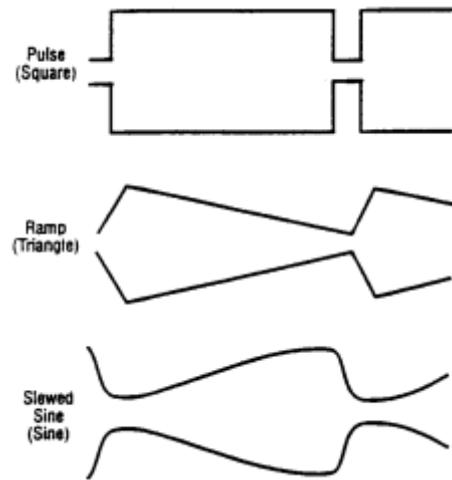

Figure 4. Effects of Symmetry Variation.
The **DUTY CYCLE** control can be used to alter the symmetry of the output waveform, to produce waveshapes such as those shown in Fig. 4. For a square wave, symmetry variation amounts to changing the duty cycle (ratio of "high" to "low" time), effectively converting the instrument into a pulse generator. For a triangle wave, the result is a ramp, and with a sine wave, a distorted waveshape called a slewed sine is produced. The Model 4017A provides for symmetry variation from 15% to 85%.
2. Engage the **DUTY CYCLE** switch (17) and adjust the **DUTY CYCLE** control (10) for the desired waveshape. Clockwise rotation from center results in an increase in square wave duty cycle, and changes the sine and triangle waves as shown in the top waveform of each pair of Fig. 4. Counter-clockwise rotation results in the bottom waveform in each pair.